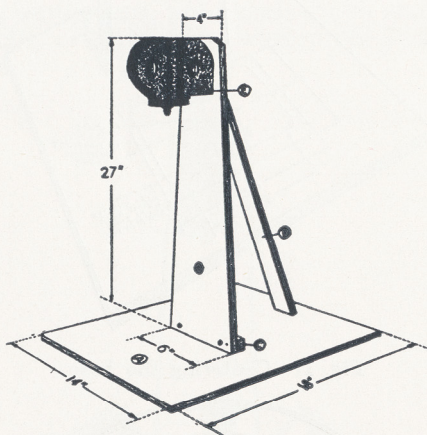

Fig. 16—Stand for animation work.
The stand for holding the camera and drawings in position is built from light wood. The base (A), Figure 16, can best be made by sawing out a piece of  $\frac{7}{8}$ -inch plywood 14x18 inches. The upright (B) which suspends the camera above the base is 27 inches in height, 6 inches wide at the base and tapers to 4 inches at the top. This is fastened to the base by a cleat (C) ten inches from the front. A light brace (D) in back will hold the upright at a 90-degree angle to the base. Be sure that this last, especially, as well as the other measurements, is accurate. This is the easiest way to eliminate future trouble.
the surface of the base. A small block (E), Figure 16, curved to fit the camera will keep it steady and exactly vertical if a round magazine type is used.